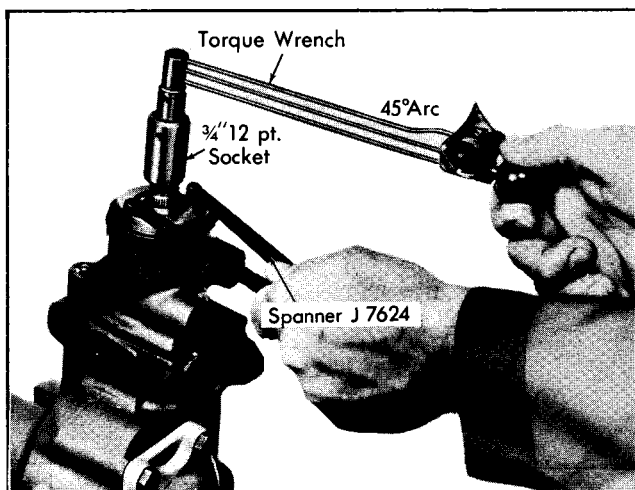

Fig. 9-79 Adjusting Thrust Bearing Preload
7. Tighten adjuster plug until torque to turn stub shaft is 3 to 4 lb. in. greater than drag torque (with lock nut tightened). See Fig. 9-79.